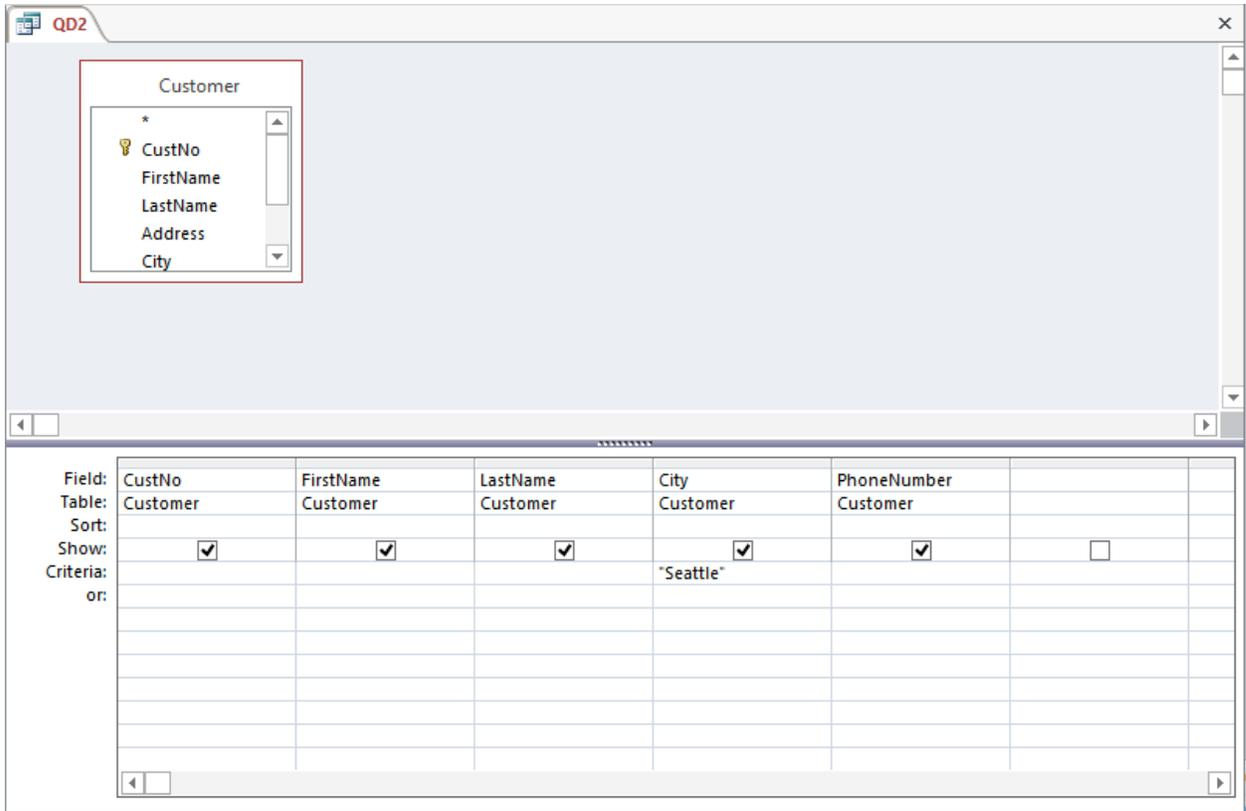

Figure 15: "QD2" with the "Seattle" Criterion
5. Enter a Condition: Next you will insert a condition to limit the list to only customers in Seattle. To accomplish this task, type in the *City* column and the *Criteria* row “Seattle”. Be sure to enclose it in double quotes (see Figure 15).